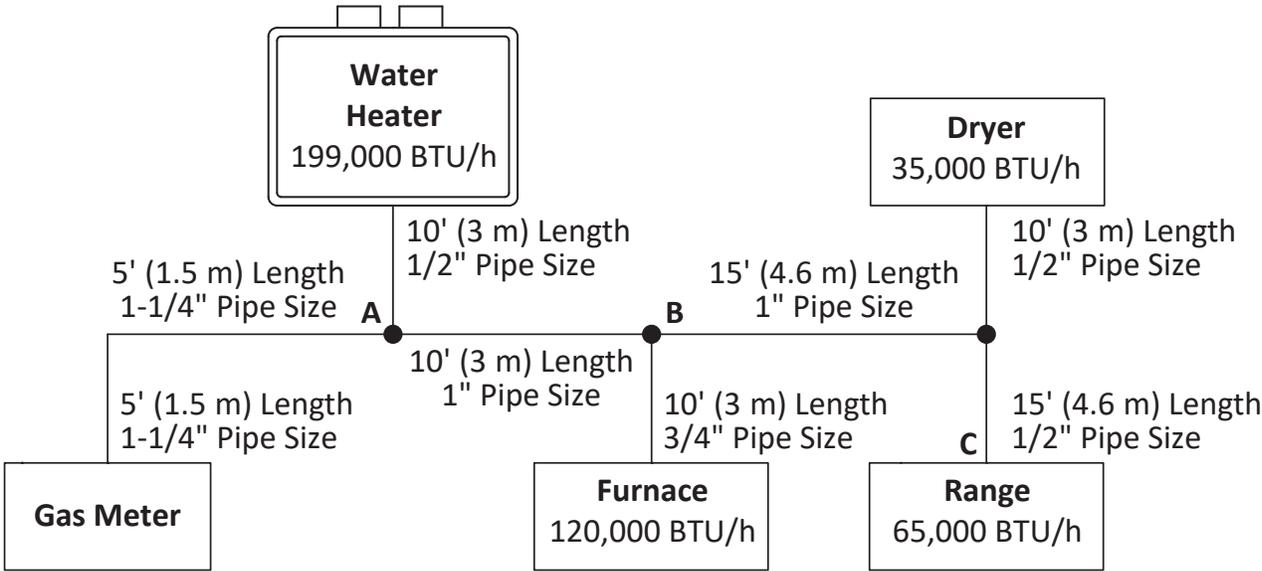

Figure 35 - Pipe Sizing Diagram
Based on Energy Content of 1,000 BTU/Cubic feet (Figure 35):
- 1 Divide each appliance's BTU/h requirement by 1,000 BTU/ft³ to get the appliance's ft³/h requirement. Take into account the distance the appliance is from the gas meter. Use Table 14 and Figure 35 below to properly size the line.